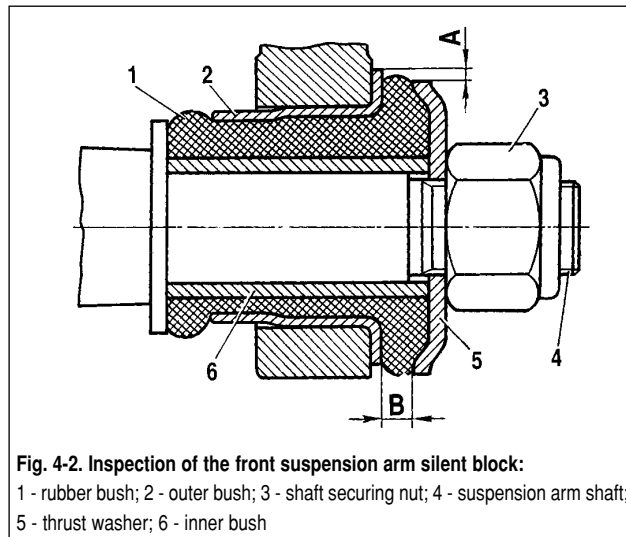

Fig. 4-2. Inspection of the front suspension arm silent block:
- measure the outer bush 2 radial displacement A (fig. 4-2) in relation to the inner bush 6 and distance B between the thrust washer 5 and the outer end face of the outer bush 2.